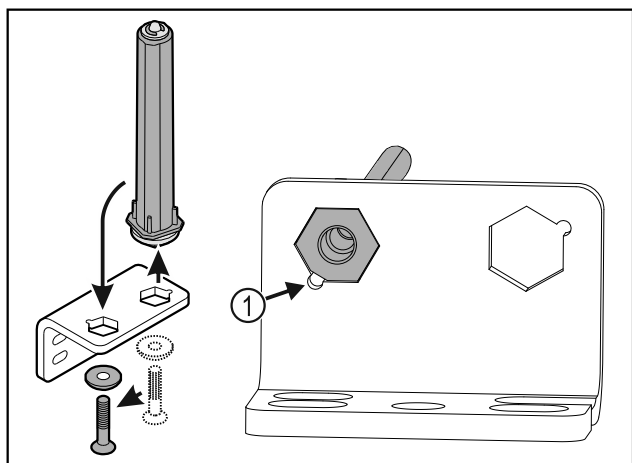

Fig. 24
- Make sure the pin chamfer Fig. 24 (1) faces the round hole when you put it in.